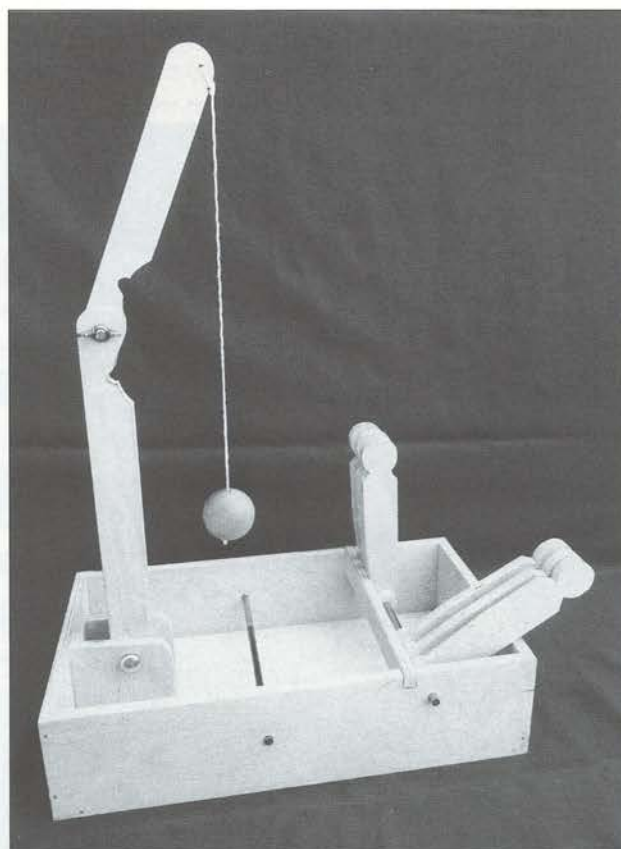

Fig 7.7 Testing that the skittles fall easily when struck by the wooden ball.
The lower part (D) is fixed in position (after painting) between the sides of the jib base (A) with a $\frac{1}{4}$ in (6mm) bolt and wing nut. The completed jib assembly may be seen in Fig 7.7.
Adjust the string and jib until the ball strikes the skittles at head height. Then test that the skittles fall backward easily onto the edge of the box when struck (see Fig 7.7).